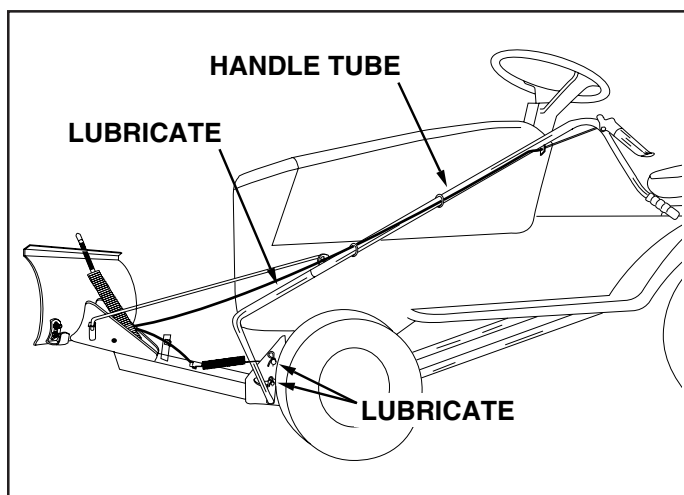

FIGURE 23
- Lubricate the points shown in figure 23 for easier operation. Use the grease packet furnished with the snow blade for lubrication of the lift handle rod and the lift handle tube assemblies.